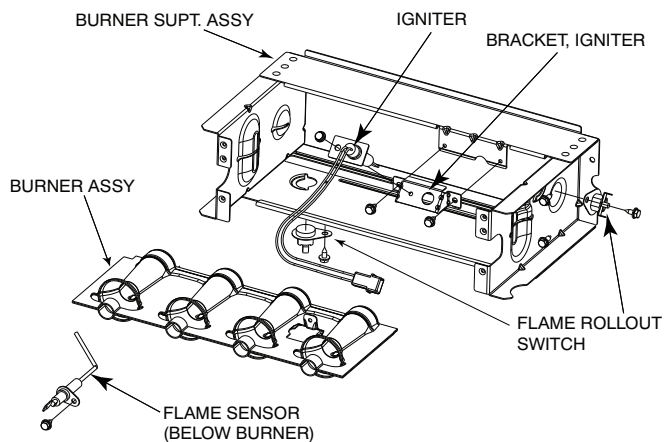

Fig. 3 – Burner Assembly
5. Remove wires from both rollout switches, see Fig. 3.
6. Slide one-piece burner assembly out of slots on sides of burner box, see Fig. 3.